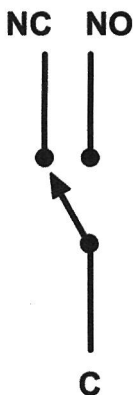

Figure 16.4
In a Double Throw switch the solder terminal that is normally *off*, or unconnected, is designated “Normally Open” (NO). The one that is normally *on*, or closed, is the “Normally Closed” (NC). The terminal that is connected, by the movement of the button or toggle, alternately to the NO or NC terminals is the “Common” (C; see Figure 16.4).